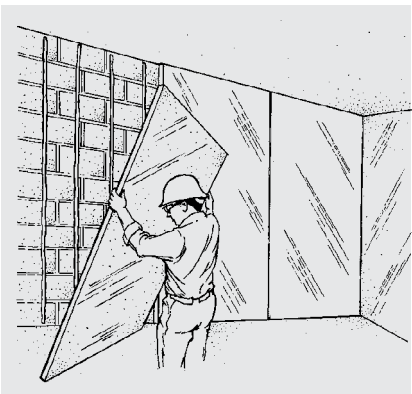

Figure 3
3. Press insulation board against the wall and butt board edges tightly together (Figure 3). Apply pressure to board until the adhesive is set. (Optional: Attach mechanical fasteners to the top and bottom of the board to hold it in place until the adhesive has set).